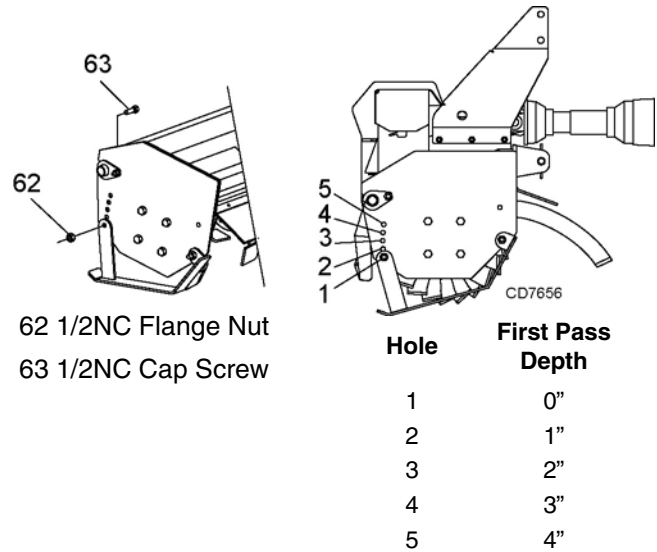

Figure 6. Tiller Depth Adjustment
- Loosen the 1/2" cap screws that act as the front pivots to the skid shoes. Remove the 1/2" cap-screws (63) that hold the rear of the skid shoes to the tiller frame.
- Adjust the skid shoe to the desired tilling depth (Figure 6). Reinstall the cap screws in the rear of the skid shoe and tighten all cap screws.